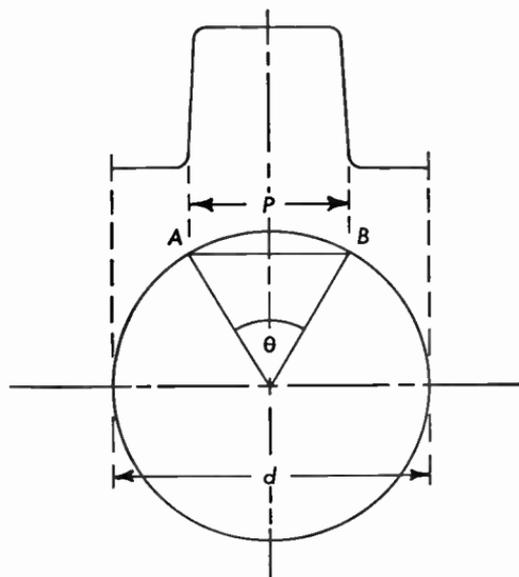

Fig. 11.48 Diagram illustrating the measuring of the duration of a pulse (see text).
11.48 To measure the duration of the horizontal synchronizing pulse on the bottom of the pulse a 15,750 cycle sine wave is used for the horizontal deflection of the oscilloscope and the measured pulse is applied to the vertical input and phased so that it occurs during the most linear portion of the applied sine wave as shown in Figure 11.48. If $p = 25$ millimeters and $d = 10$ centimeters what is the duration of p in terms of the whole cycle H and what is its actual duration in microseconds?
pulse is applied to the vertical input and phased so that it occurs during the most linear portion of the applied sine wave. Referring to Figure 11.48 with the horizontal amplifier adjusted to make $d = 10$ centimeters, what is the length of p if the blanking lasts for a period of 15 lines?